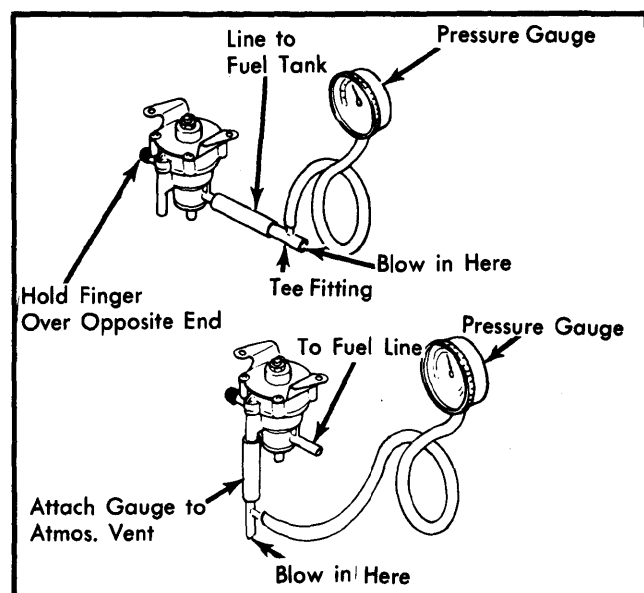

Fig. 3 Testing Check and Cut Valve (Exc. B2000)
1) Remove check and cut valve from lines. Connect a pressure gauge with tee on nipple leading to fuel tank. Hold finger over opposite nipple. See Fig. 3.